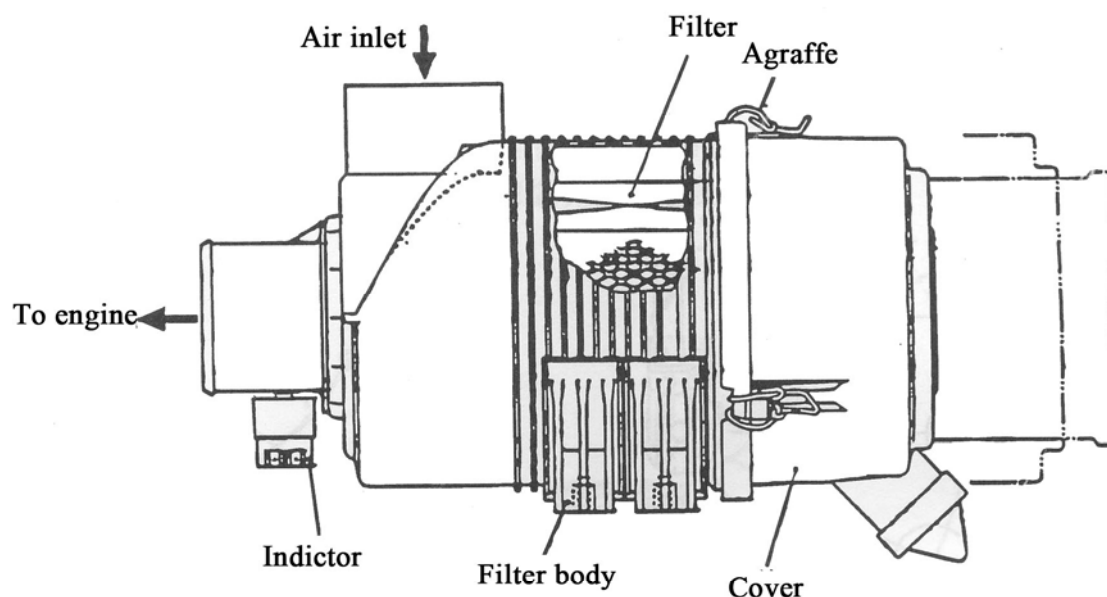

Fig 1.4 Air Filter
1.5.1 Air Filter (see Fig 1.4)